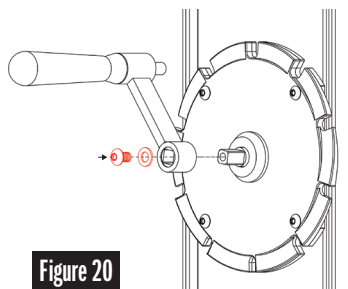
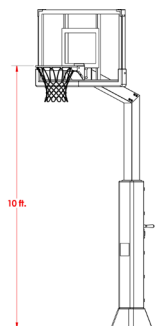

Figure 20
Figure 21
**STEP 12:** Secure Crank Handle (Part J) with screw on the backside of the hoop. See Figure 20. Replace the Base Pole Pad. Raise the hoop to 10' with the crank handle. Check the height using a measuring tape. See Figure 21. Ensure crank handle locks into place to prevent unintended movement.